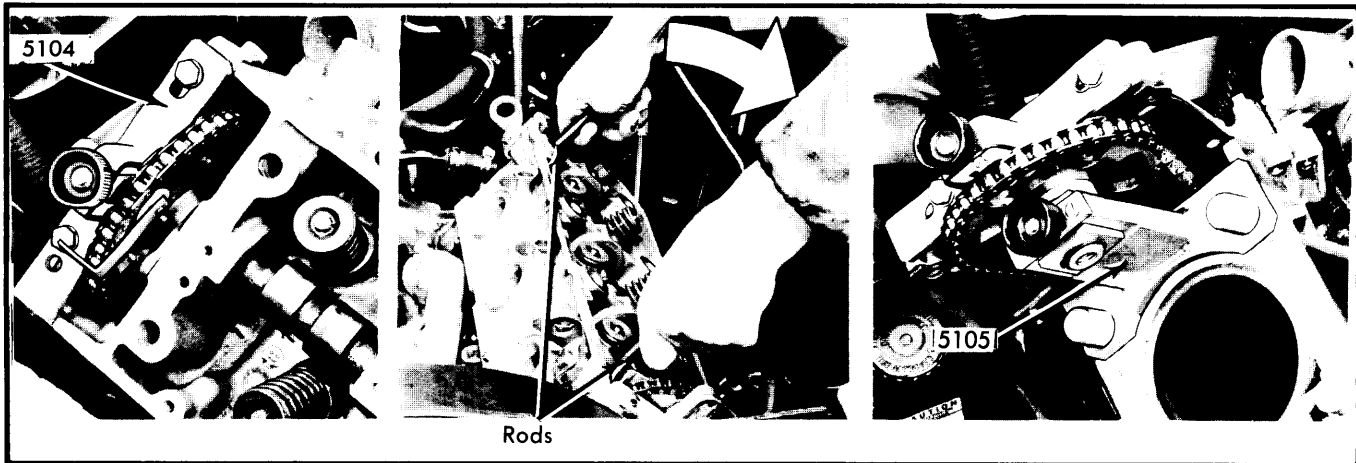

Fig. 2 Special Tools for Removing Cylinder Heads
9) Insert two 12" long rods into cylinder head bolt holes, Fig. 2, and push downward to loosen cylinder head from block. Do not attempt to remove cylinder head by lifting straight upward. If liners are not to be removed, be sure they do not separate from their seals in lower liner seat. If seals are damaged, coolant will enter crankcase. Lift out cylinder head carefully.
10) Tap guide sleeves flush with block face and remove gasket. Install liner holders (5093) to secure liners against seat seals. Clean gasket surfaces and install camshaft retaining tool (5105). After tool is securely in place, remove fixing bolt from previously installed tool (5104). See Fig. 2.